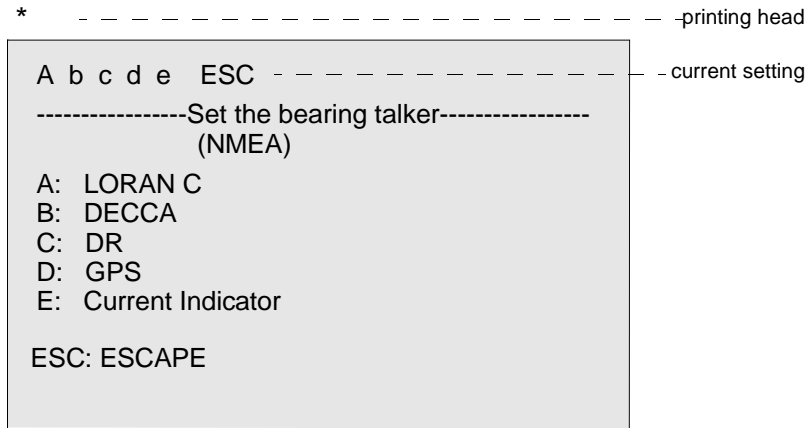

Figure 20. Main Menu Printout
55. Similar to the manner in which positioning talker selection is done, set the desired talker equipment for ships speed data and then press the ENT key (figure 3, item 4) (figure 20). The bearing talker menu is printed (figure 20).